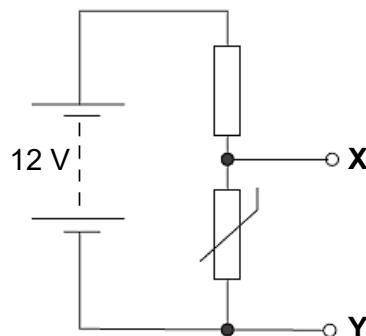

Fig. 5.2
- (ii) The resistor and thermistor are connected in series to a 12 V battery of negligible internal resistance, as shown in Fig. 5.2.